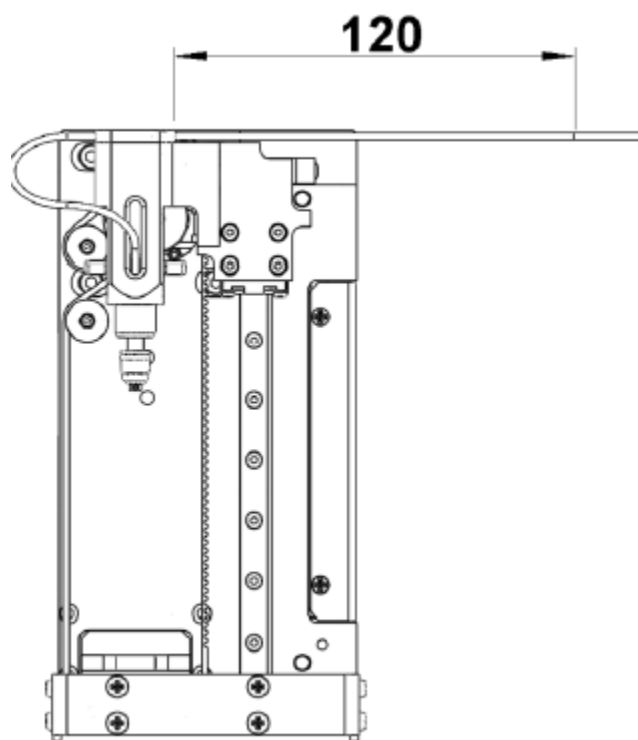

Figure O-11: Threading the Teflon Tube
4. Thread the PTFE tube through the hole in the Reagent Pipettor Spigot Slider Top Cover. With a permanent marker, draw a line on the PTFE Tube 120mm from the top face of the Reagent Pipettor Spigot Slider Assembly (Figure O-11).